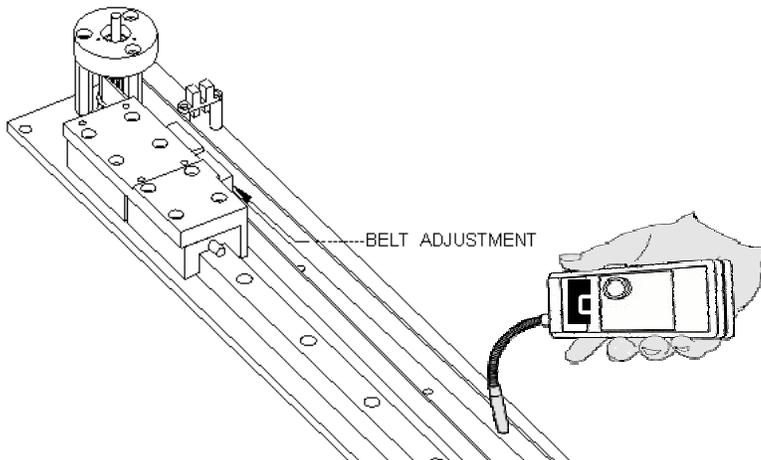

Figure 7-65 Checking the Belt Tension
- 1 Position the Tension Meter (Brecoflex Model SM3) over the rear section of the X belt as shown in Figure 7-65.